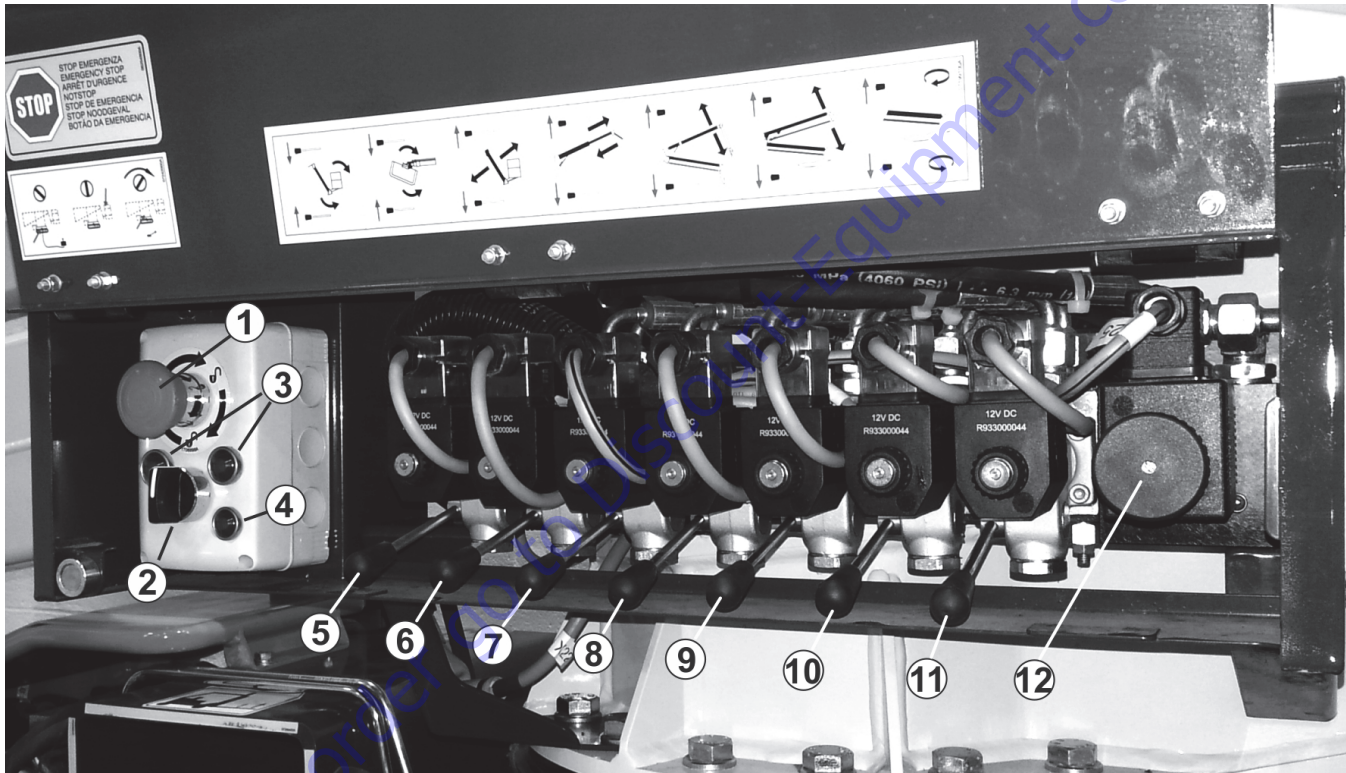

Figure 5-3. Ground Control Station - Boom Control Valves
(See Figure 5-2. or Figure 5-3.)
1. Operate the boom control valves at the ground control valve distributor. (see Figure 5-3.)
NOTE: The distributor enable valve (item 12) adjusts the speed of the boom movements (pressure flow) when using the boom control valves at the valve distributor on the left side of the machine in Figure 5-3. Without electrical power you must manually open this valve by pressing it in before operating the boom controls.
Open the cover on the Ground Control Station (See Figure 5-2. or Figure 5-3.) located on the hydraulic tank side of the machine.
- a. **Depress the enable valve lever/button** (See Figure 5-2. or Figure 5-3.).
- b. **Activate the swing control lever** (item 11 - Figure 5-3. on page 5-6), in the desired direction of travel while pumping the hand pump until the turntable is aligned with the chassis.
NOTE: *All of the following functions require the enable lever/button (See Figure 5-2. or Figure 5-3.) to be depressed while pumping the hydraulic hand pump and operating the function lever.*
With the aid of an assistant, while pumping the hand pump, activate the telescope function lever (See Figure 5-2. or Figure 5-3.) at the ground controls, to retract the main boom.
While pumping the hand pump, activate the jib lift function lever (See Figure 5-2. or Figure 5-3.) in the appropriate direction to lower the jib.
While pumping the handpump, activate the tower boom lift function lever (*See Figure 5-2. or Figure 5-3.*) in the appropriate direction to lower the tower boom.
With the aid of an assistant, activate the main boom lift function lever (*See Figure 5-2. or Figure 5-3.*) in the appropriate direction to lower the main boom.
Activate the appropriate platform rotate function lever (*See Figure 5-2. or Figure 5-3.*) to rotate the platform.
Activate the appropriate platform level function lever (*See Figure 5-2. or Figure 5-3.*) to level the platform.